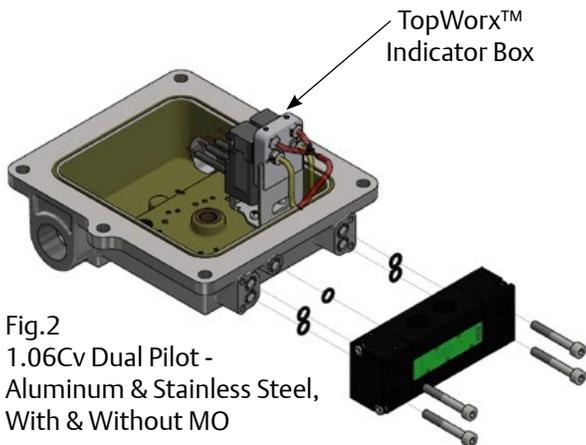

Fig.2
2. Spool Valve is mounted on the Interface Plate Assembly. Three screws are used to mount the Spring Return versions and 4 Screws to mount the Dual Pilot versions as shown in figure 2 (a) & 2 (b).